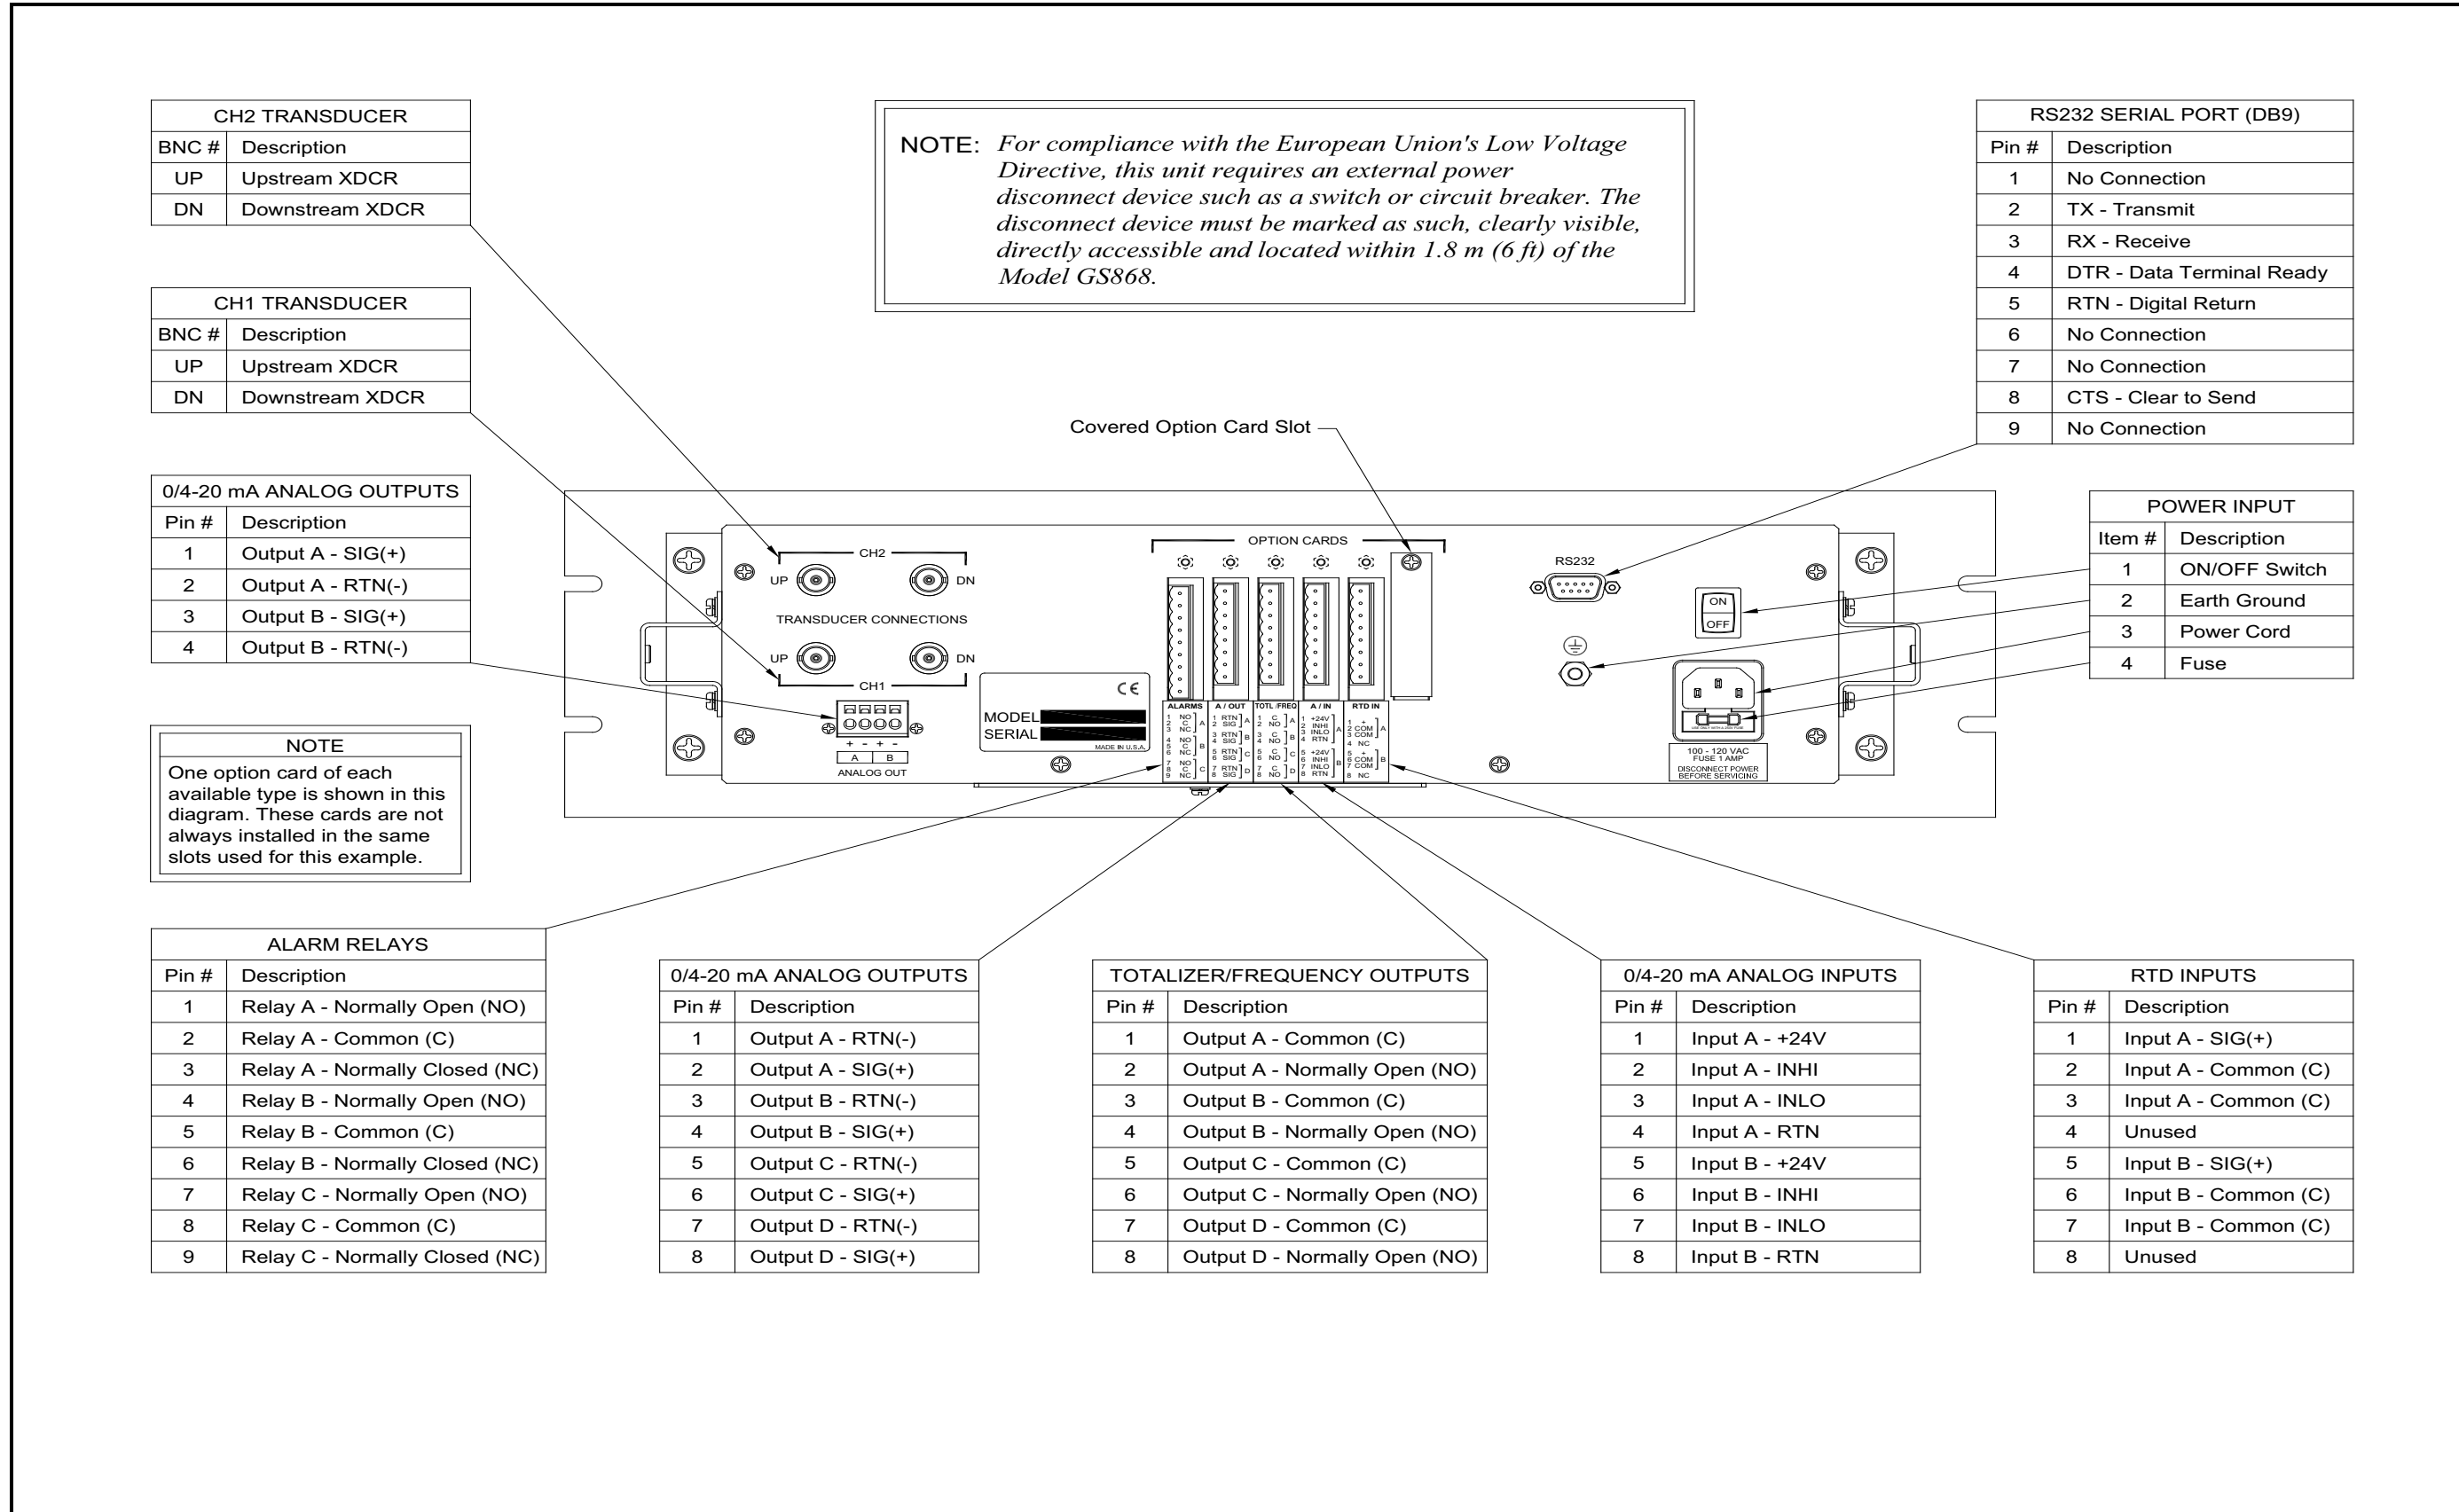

Figure 16: Model GS868 Rack Mount Enclosure - Wiring Diagram
The rack mount Model GS868 requires exactly the same electrical connections as the standard version. However, the locations and type of connectors used for the various components are different. Refer to Figure 16 on page 58 and complete the following steps:
- a. Purchase or prepare a suitable serial cable. This cable should have a standard female DB9 connector, wired as shown in Figure 16 on page 58, for connection to the rear panel of the Model GS868. The other end should be as required for the external device.
5. Wire any installed *option cards* using the same procedures described in Chapter 1, *Installation*, of this manual and the pin # assignments shown in Figure 16 on page 58.